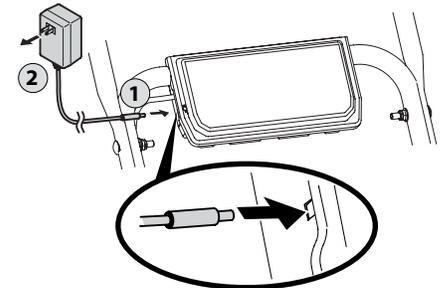

Figure 6-6
- Unhinge the cover seal and plug the battery charger into the port on the side of the battery housing. See Figure 6-6.